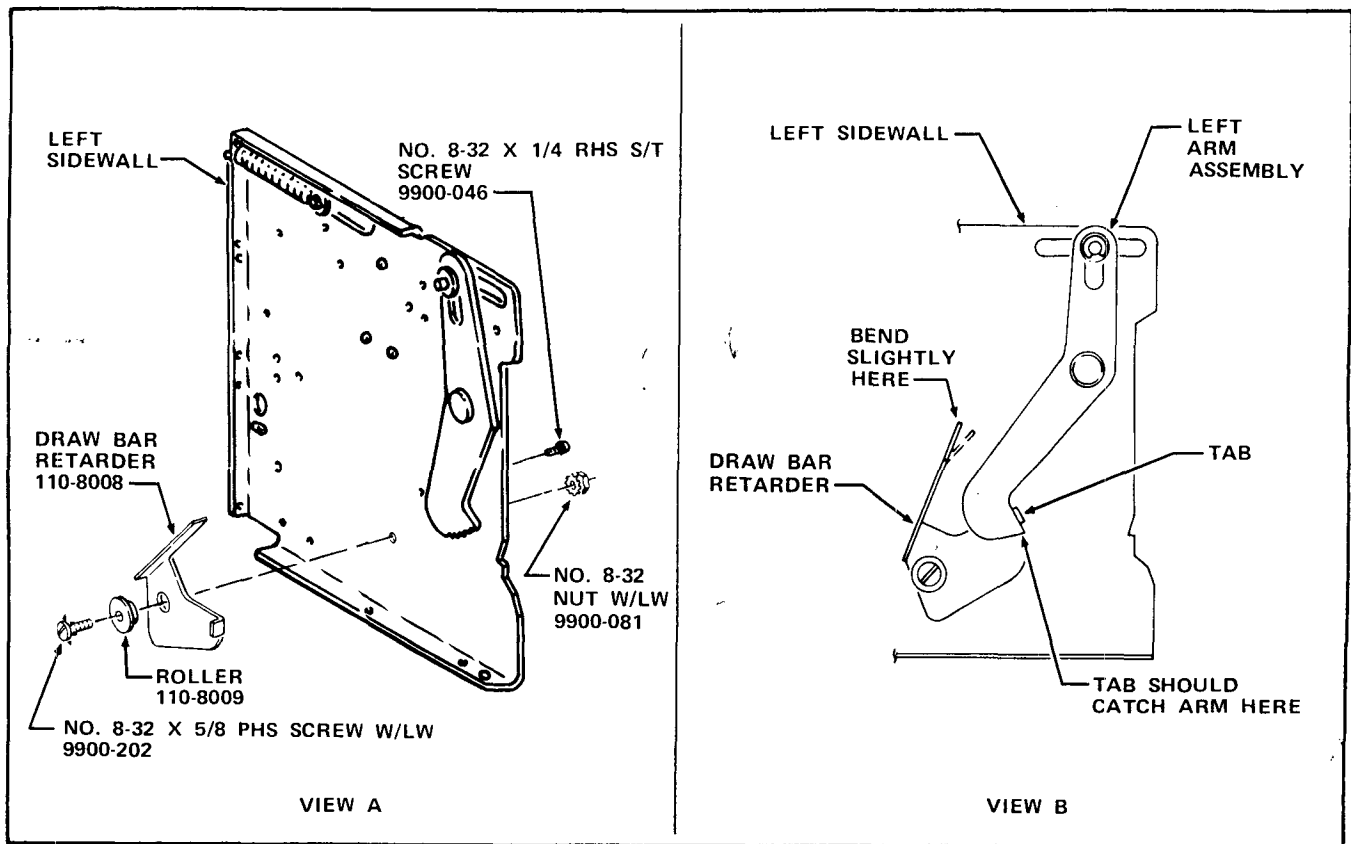

FIGURE 3-5
30. Install the Draw Bar Retarder, Part Number 110-8008, and Roller, Part Number 110-8009, on the Left Sidewall using a No.8-32 x 5/8 PHS Screw with Lockwasher, Part Number 9900-202 and a No.8-32 Nut with Lockwasher, Part Number 9900-081, all included in the Kit. Lubricate the Roller with Lubriplate. See View A of Figure 3-5.
31. Install a No.8-32 x 1/4 RHS Self Tapping Screw, Part Number 9900-046, included in the Kit, from the inside of the Left Sidewall so the Draw Bar Retarder Arm rests on the threads of the Screw. See View A of Figure 3-5.
1. *When a Pull Knob is pulled too fast, the Draw Bar Retarder Tab will lock the Left Arm Assembly, preventing a "free" vend. To complete the vend cycle when this happens, pull the Pull Knob all the way out, which will release the Left Arm Assembly and allow the Pull Knob to return to the at rest position. If the Draw Bar Retarder does not satisfactorily lock the Left Arm Assembly when a Pull Knob is pulled fast, bend the Draw Bar Retarder Arm down slightly until the Draw Bar Retarder works properly. See View B of Figure 3-5.*